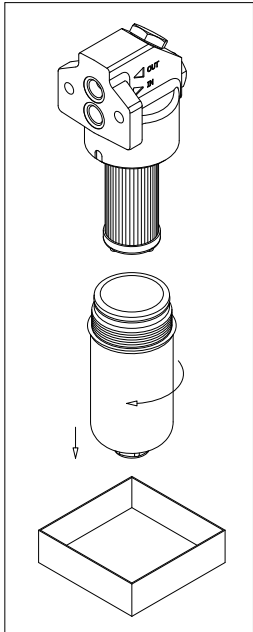

fig. 4
- (Fig. 4) If no drain plug is provided, unscrew the filter bowl after placing a vessel to collect the operating fluid